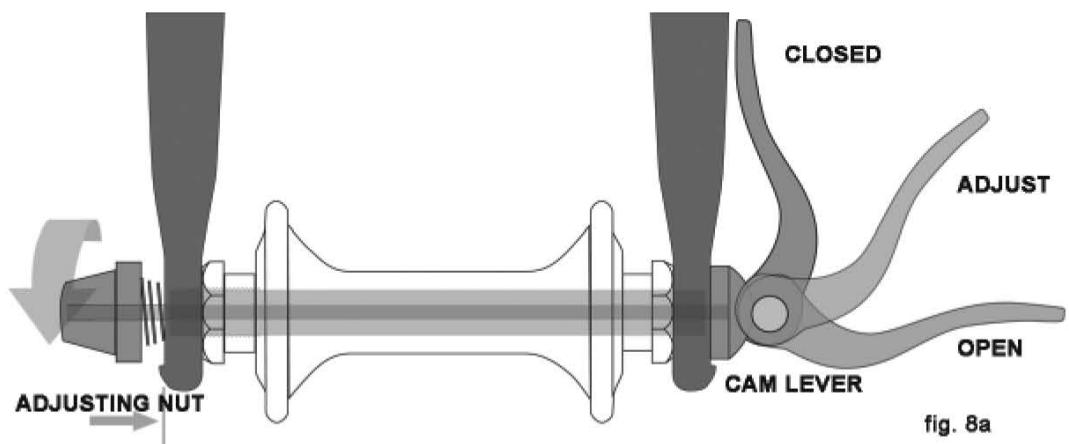
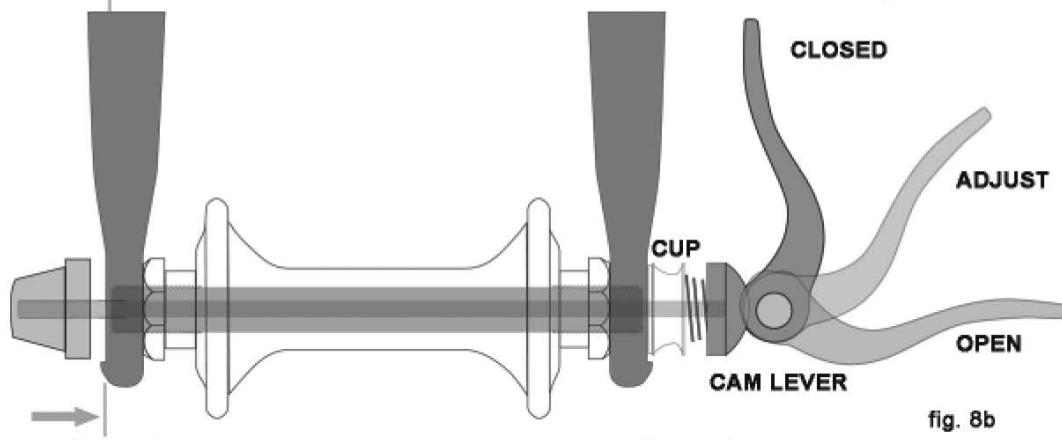
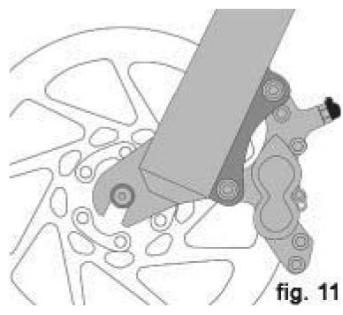
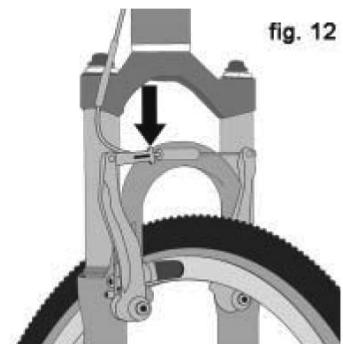

fig. 8a
fig. 8b
fig. 11
fig. 12
There are currently two types of over-center cam wheel retention mechanisms: the traditional over-center cam (fig. 8a) and the cam-and-cup system (fig. 8b). Both use an over-center cam action to clamp the bike's wheel in place. Your bicycle may have a cam-and-cup front wheel retention system and a traditional rear wheel cam action system.
a. Adjusting the traditional cam action mechanism (fig. 8a)
b. Adjusting the cam-and-cup mechanism (fig. 8b)
- (1) If your bike has rim brakes, disengage the brake's quick-release mechanism to increase the clearance between the tire and the brake pads (See Section 4.D fig. 11 through 15).
- (2) If your bike has cam action front wheel retention, move the cam lever from the locked or CLOSED position to the OPEN position (fig. 8a & b). If your bike has through bolt or bolt-on front wheel retention, loosen the fastener(s) a few turns counter-clockwise using an appropriate wrench, lock key or the integral lever.
- (3) If your front fork has a clip-on type secondary retention device, disengage it. If your front fork has an integral secondary retention device, and a traditional cam action system (fig. 8a) loosen the tension adjusting nut enough to allow removing the wheel from the dropouts. If your front wheel uses a cam-and-cup system, (fig. 8b) squeeze the cup and cam lever together while removing the wheel. No rotation of any part is necessary with the cam-and-cup system.
- (1) If your bike has cam action front wheel retention, move the cam lever so that it curves away from the wheel (fig. 8b). This is the OPEN position. If your bike has through bolt or bolt-on front wheel retention, go to the next step.
- (2) With the steering fork facing forward, insert the wheel between the fork blades so that the axle seats firmly at the top of the fork dropouts. The cam lever, if there is one, should be on rider's left side of the bicycle (fig. 8a & b). If your bike has a clip-on type secondary retention device, engage it.
- (3) If you have a traditional cam action mechanism: holding the cam lever in the ADJUST position with your right hand, tighten the tension adjusting nut with your left hand until it is finger tight against the fork dropout (fig. 8a). If you have a cam-and-cup system: the nut and cup (fig. 8b) will have snapped into the recessed area of the fork dropouts and no adjustment should be required.
- (4) While pushing the wheel firmly to the top of the slots in the fork dropouts, and at the same time centering the wheel rim in the fork:
- (a) With a cam action system, move the cam lever upwards and swing it into the CLOSED position (fig. 8a & b). The lever should now be parallel to the fork blade and curved toward the wheel. To apply enough clamping force, you should have to wrap your fingers around the fork blade for leverage, and the lever should leave a clear imprint in the palm of your hand.
- (2) If your bike has rim brakes, disengage the brake's quick-release mechanism to increase the clearance between the wheel rim and the brake pads (see Section 4.D, fig. 11 through 15).
- (3) On a derailleur gear system, pull the derailleur body back with your right hand.
- (4) With a cam action mechanism, move the quick-release lever to the OPEN position (fig. 8b). With a through-bolt or bolt-on mechanism, loosen the fastener(s) with an appropriate wrench, lock lever or integral lever; then push the wheel forward far enough to be able to remove the chain from the rear sprocket.
- (5) Lift the rear wheel off the ground a few inches and remove it from the rear dropouts.
- (1) With a cam action system, move the cam lever to the OPEN position (see fig. 8a & b). The lever should be on the side of the wheel opposite the derailleur and freewheel sprockets.
- (2) On a derailleur bike, make sure that the rear derailleur is still in its outermost, high gear, position; then pull the derailleur body back with your right hand. Put the chain on top of the smallest freewheel sprocket.
- (3) On single-speed, remove the chain from the front sprocket, so that you have plenty of slack in the chain. Put the chain on the rear wheel sprocket.
- (4) Then, insert the wheel into the frame dropouts and pull it all the way in to the dropouts.
- (5) On a single speed or an internal gear hub, replace the chain on the chainring; pull the wheel back in the dropouts so that it is straight in the frame and the chain has about 1/4 inches of up-and-down play.
- (6) With a cam action system, move the cam lever upwards and swing it into the CLOSED position (fig. 8a & b). The lever should now be parallel to the seat stay or chain stay and curved toward the wheel. To apply enough clamping force, you should have to wrap your fingers around the fork blade for leverage, and the lever should leave a clear imprint in the palm of your hand.
- (7) With a through-bolt or bolt-on system, tighten the fasteners to the torque specifications in Appendix C or the hub manufacturer's instructions.
Some bikes are equipped with a cam action seat post binder. The seat post cam action binder works exactly like the traditional wheel cam action fastener (Section 4.A.2) While a cam action binder looks like a long bolt with a lever on one end and a nut on the other, the binder uses an over-center cam action to firmly clamp the seat post (see fig. 8a).
3. Some bicycle brakes, such as disc brakes (fig. 11) and linear-pull brakes (fig. 12), are extremely powerful. Take extra care in becoming familiar with these brakes and exercise particular care when using them.
removed or reinstalled. When the brake quick release is in the open position, the brakes are inoperative. Ask your dealer to make sure that you understand the way the brake quick release works on your bike (see fig. 12, 13, 14 & 15) and check each time to make sure both brakes work correctly before you get on the bike.